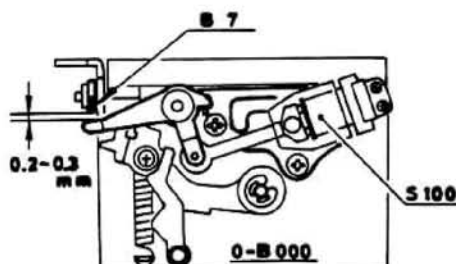

Fig. 32
- * Install Release magnet (S100) so that the clearance between Hook lever (B7) and the lever of Release magnet becomes 0.2 ~ 0.3mm as shown in Fig. 32.